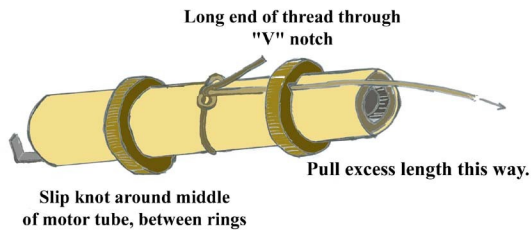

Figure 4
- **Step 8** Tie a slip knot around the middle of the **sustainer** engine mount, as shown in Figure 4, using the Kevlar shock chord mount. Push the long end of the Kevlar thread through the “V” notch, and slide the loop up to the back edge of the forward ring, pulling the excess thread as you tighten up the loop. Apply a thinned layer of yellow glue to this loop to secure it, and set aside to dry.